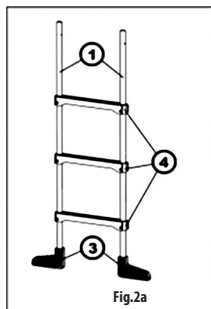

Fig. 2a
Press all plastic treads (4) on the two pairs of stiles (Fig. 2a) taking care to maintain the same orientation of all treads.